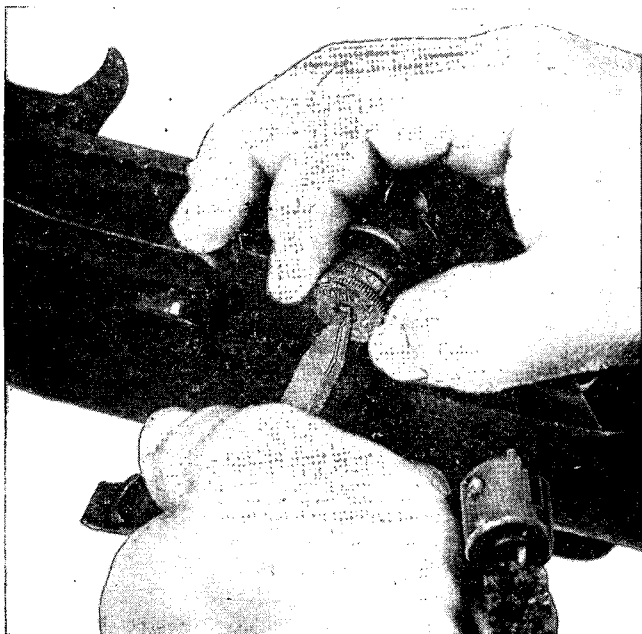

Figure 101. Setting the battle sight.
a. To set the battle sight (fig. 101), lock the rear sight at the 300-yard zero by tightening the rear sight locking nut; be careful not to disturb this sight setting. Loosen the screw in the elevation knob with the screwdriver blade of the combination tool. Move the elevating knob drum until the index line for BATTLE SIGHT, which is the 300-yard line, is opposite the index line on the receiver. Now tighten the elevating screw. Your sights are now set for the 300-yard or the BATTLE SIGHT zero. This sight setting on your rear sight is most important. During combat,